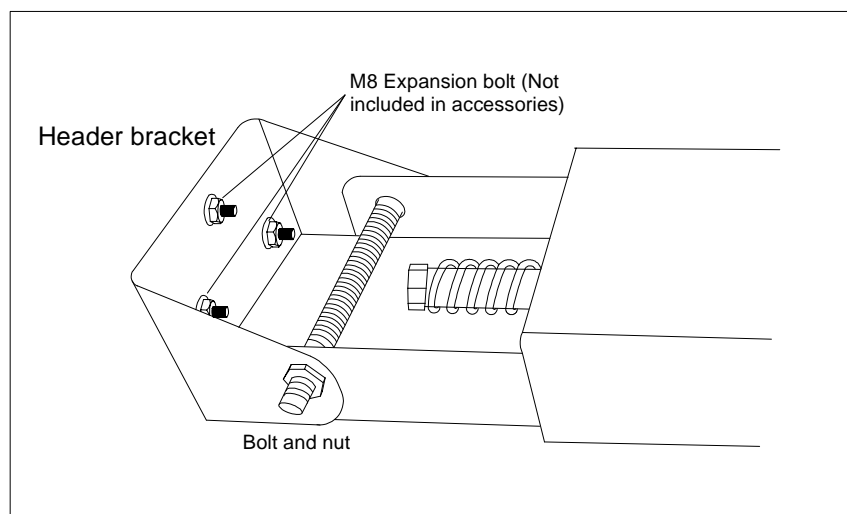

Fig.7
- Place the operator in the center of the floor. Lift the front end of the rail up to the header bracket that has been mounted above the garage door, insert the bolt and secure it with nut see Fig.7.